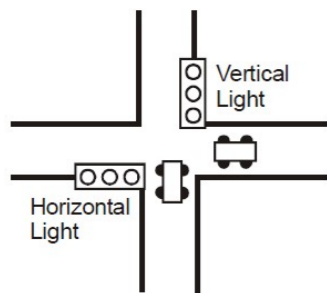

Figure 2
(b) Develop a PLC ladder logic program for traffic light control in two directions as shown in Figure 2. The timing chart is given in Table 1. (14) 3 4